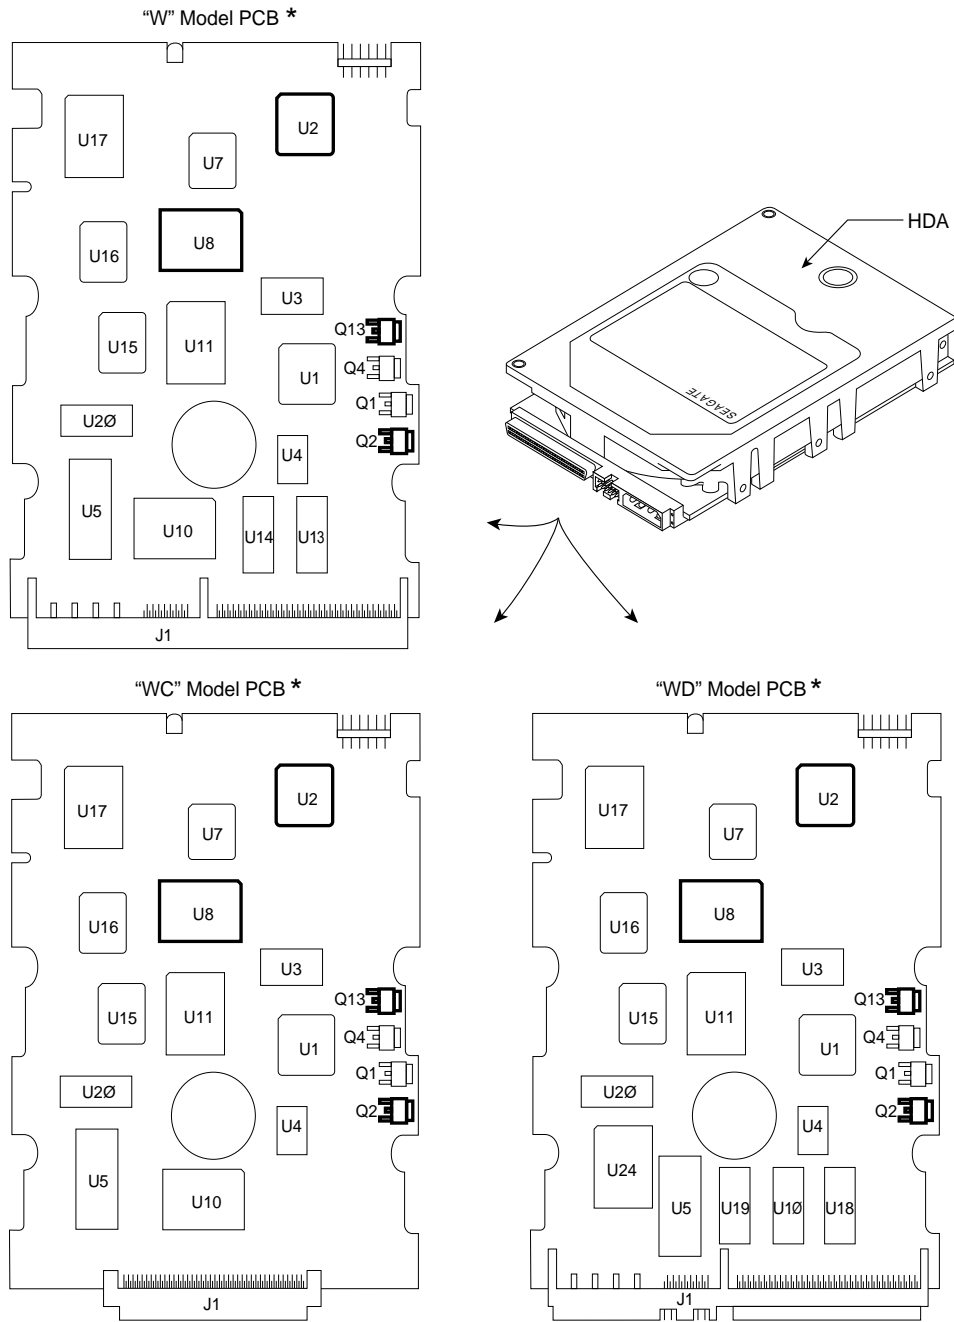

Figure 7.4.1-1. Locations of components listed in Table 7.4.1-1
- [2] No point on the HDA top cover should exceed the maximum temperature. Measure at point shown in Figure 7.4.1-1.